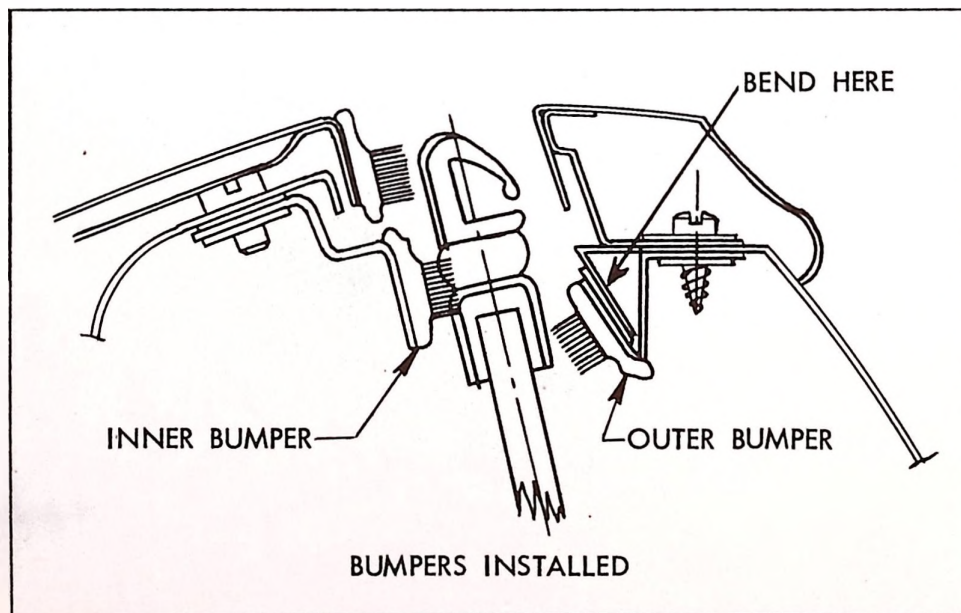

FIGURE 1
1. Bend the inner flange of the quarter panel to match the contour of the outer bumper. See Figure 1. (This is very important to prevent interference with glass channel and is necessary only along the area of the flange that the bumper contacts.)
Mount inner bumpers to underside of inner quarter panel and secure with screws and plain washers. See Figure 1.